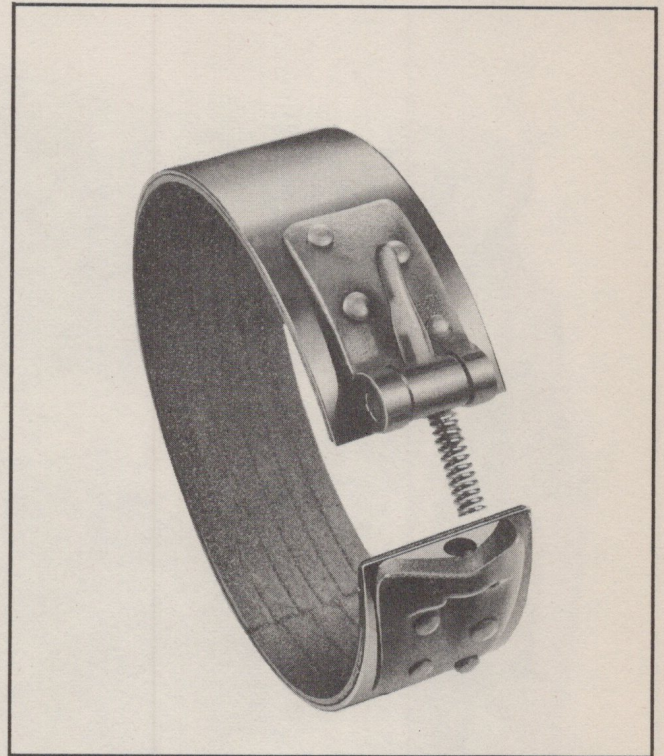

Fig. 39 Location of Rear Band Release Spring
Check the rear band release spring for distortion or collapsed coils. (See Fig. 39.) Free length should be approximately 1-7/64".
1. Before installing rear servo, install rear band release spring between the struts of the rear band (Fig. 39).